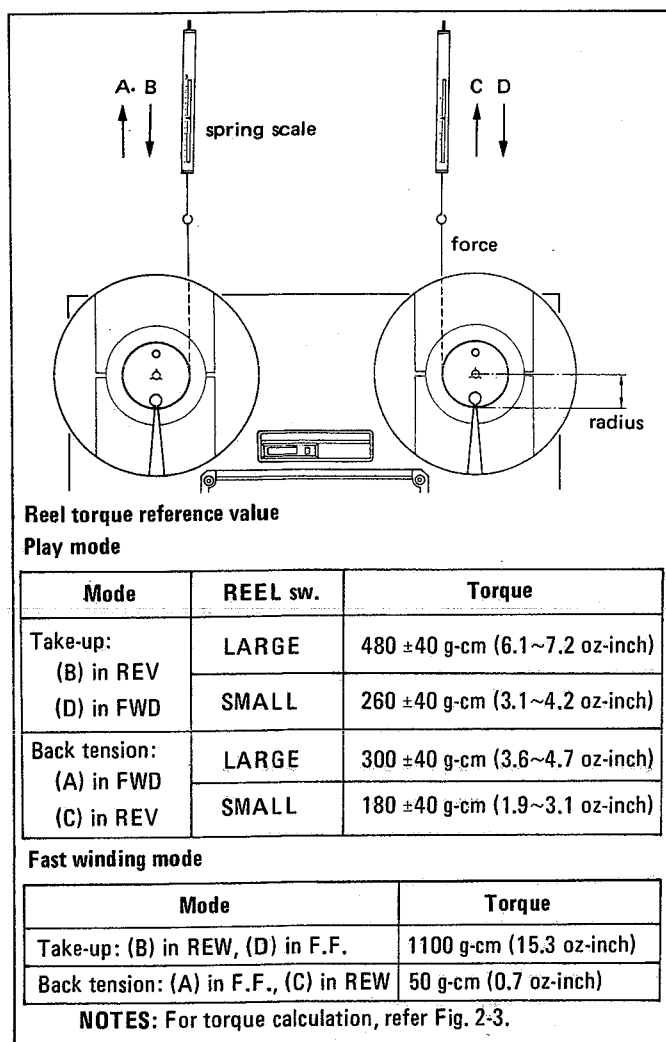

Fig. 2-4
2. See Fig. 2-4. Measure torques for each operating mode with the conditions specified in the chart.